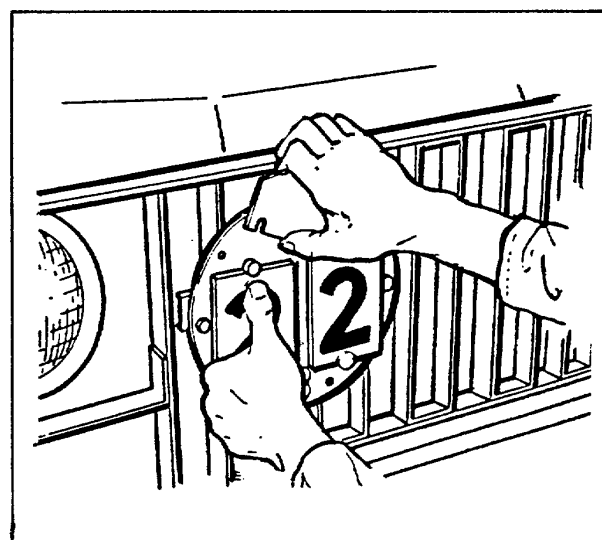

Figure 27. Unlocking the retaining plate.
(1) When unlocking retaining plate, use the thumb of one hand and press down firmly on one stack of numeral plates, Figure 27. With the other hand, press gently on the retaining plate and pivot the plate away from the lock pin. To remove retaining plate completely, press down firmly on the remaining stack of numeral plates and free retaining plate from the other lock pin.
(2) To lock retaining plate, make sure that five numeral plates are tacked on each anchor pin with the two top plates showing the desired classification number. If the vehicle is to be used in combination, position the retaining plate so that the C on one side of the plate will be visible. If the vehicle is to be used singly, position the retaining plate so that the C will not be visible. Press down firmly on the top of one stack of numeral plates and slide the retaining plate onto the lock pin until the plate snaps in place. Repeat the procedure for the remaining stack of plates and lock the retaining plate to the remaining lock pin. Refer to FM 5-36 for vehicle weight classification data.